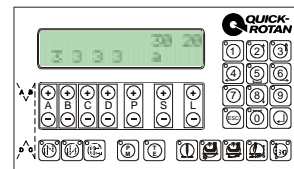

Fig. 7.4
**Control panel** (**Fig.7.4** - optional) EcoTop AQE for Lockstitch machines, EcoTop DQE for Chainstitch machines and EcoTop FQE for Overlock machines (see chap. 7.4, 7.5 and 7.6).